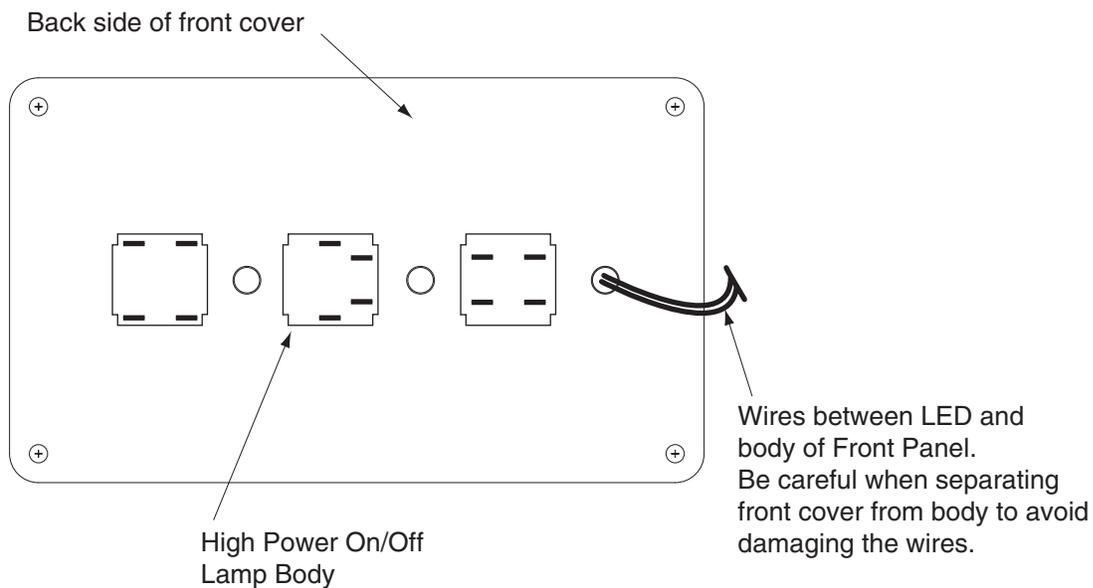

Figure 5-1. Lamp Body Contact Alignment
8. Replace the lamp body by pushing it straight into the lamp housing receptacle. Make sure the contacts on the lamp body are properly oriented. See Figure 5-1 on page 84.